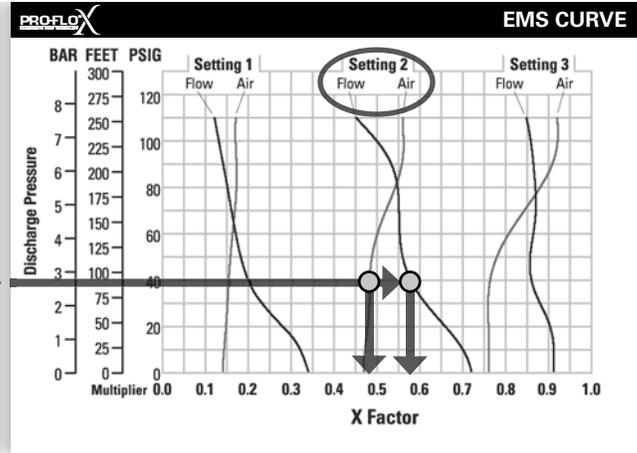

Figure 2
**FIGURE 2** When the pressurized diaphragm, diaphragm A, reaches the limit of its discharge stroke, the air valve redirects pressurized air to the back side of diaphragm B. The pressurized air forces diaphragm B away from the center while pulling diaphragm A to the center. Diaphragm B is now on its discharge stroke. Diaphragm B forces the inlet check valve onto its seat due to the hydraulic forces developed in the liquid chamber and manifold of the pump. These same hydraulic forces lift the discharge check valve off its seat, while the opposite discharge check valve is forced onto its seat, forcing fluid to flow through the pump discharge. The movement of diaphragm A toward the center of the pump creates a vacuum within liquid chamber A. Atmospheric pressure forces fluid into the inlet manifold of the pump. The inlet check valve is forced off its seat allowing the fluid being pumped to fill the liquid chamber.
**Step 2: Determining flow and air X Factors.** Locate your discharge pressure (40 psig) on the vertical axis of the EMS curve (Figure 2). Follow along the 2.8 bar (40 psig) horizontal line until intersecting both flow and air curves for your desired EMS setting (in this case, setting 2). Mark the points where the EMS curves intersect the horizontal discharge pressure line. After locating your EMS points on the EMS